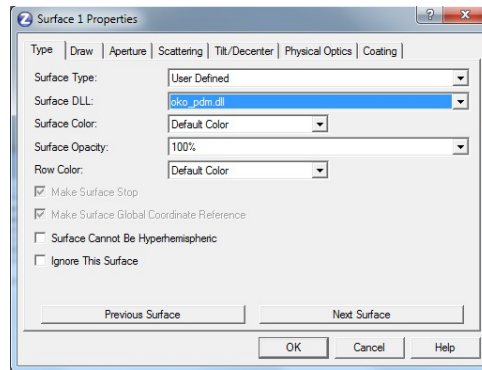

Figure 2: Settings in “Surface type” dialog
1. In the lens parameter table double-click with the left mouse button on the surface type field to invoke surface type dialog. In the field “Surface type” select “User-defined” and in the field “File name” choose “oko_pdm.dll”. Click “OK” to confirm (Fig 2).